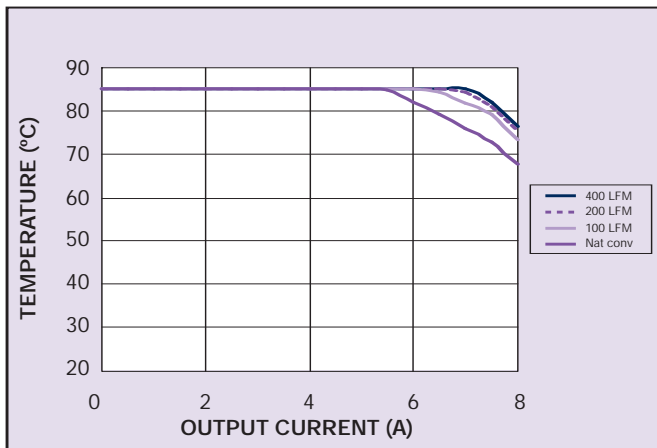

Figure 1 - Safe Operating Area
- See Figure 1 for safe operating curve.